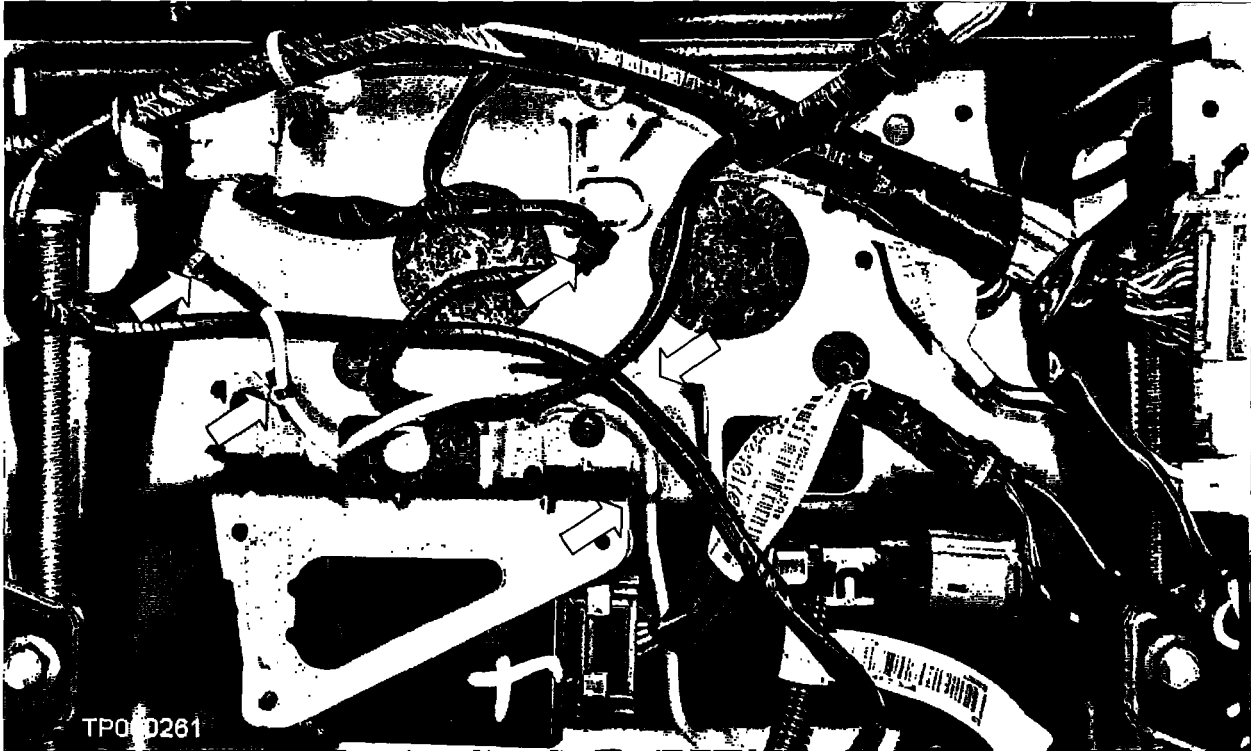

Figure 20
- Route the harnesses as shown in Figure 20.
- See arrows in Figure 20 for the 5 harness-to-seat connection points.
The harnesses shown in Figure 20 include the following options: